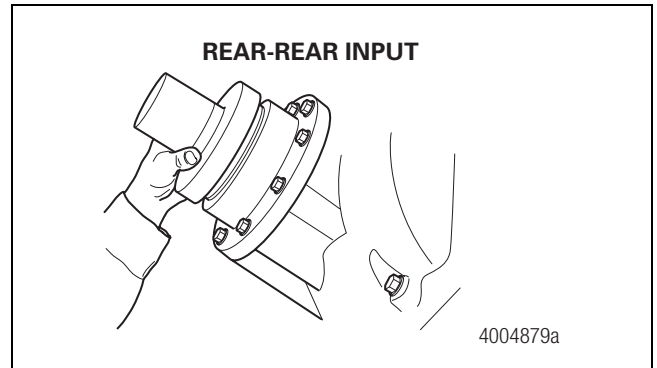

Figure 5.36
4. Install the rear-rear axle input seal. Hold the seal only on the outer diameter. Position the seal into the seal driver and align it with the rear-rear axle input bearing cage. Use a dead-blow hammer and the appropriate driver to install the seal into the bearing cage. Figure 5.36.